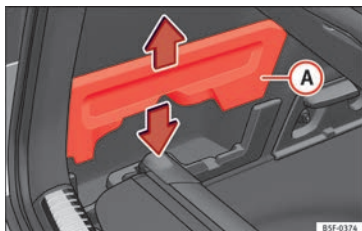

Fig. 165 In the luggage compartment: housing for storing the rear shelf.
- Remove covers »» Fig. 165 (A) left and right.